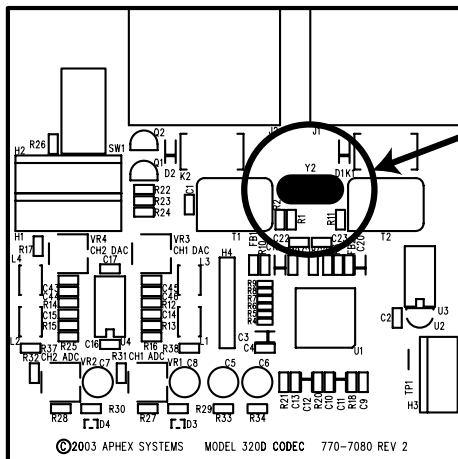

Fig 6.1
- c. Locate the digital audio interface board as shown in figure 6.1.